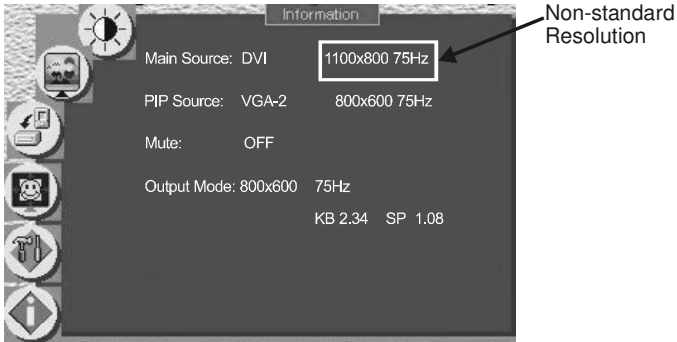

Figure 43: Non-standard Resolution in the Information Screen
8. Open the Information screen and check that the new resolution appears in the Main Source line¹ (see Figure 43).